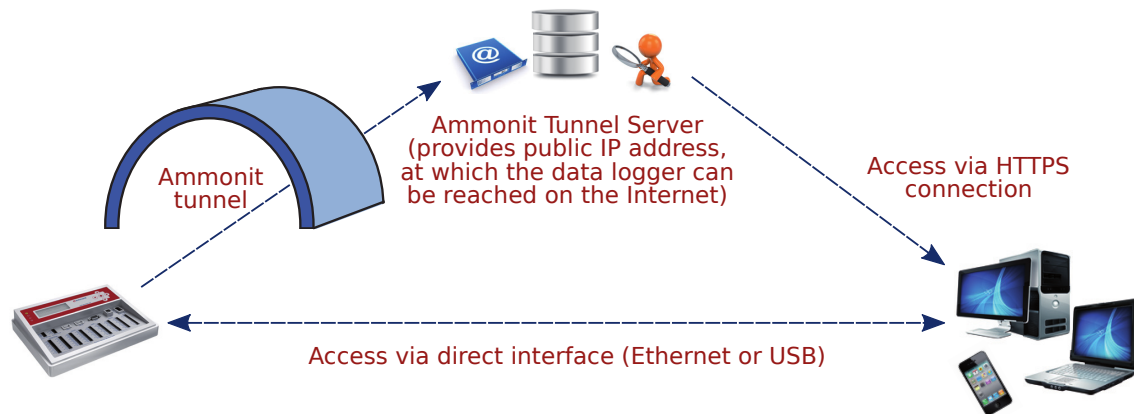

Figure 7.2: Communication between Meteo-40 and PC via Ammonit Tunnel Server
Meteo-40 can be connected to a tunnel server (e.g., Ammonit Tunnel Server; see Figure 7.2) to obtain a unique subdomain. Thus the GSM modem can be equipped with a standard SIM card with dynamic IP address. The tunnel server manages the subdomains. Users access the Meteo-40 web interface (when online) by entering its subdomain, e.g., `https:// subdomain . tunnel . ammonit . com`. Additionally, the tunnel between data logger and server is encrypted and therefore cannot be accessed by unauthorized users.
**Ammonit tunnel:** Select the Ammonit Tunnel Server (see Figure 7.2) to access the data logger's web interface via an Ammonit tunnel domain link `https://Dnnnnnn.tunnel.ammonit.com`.